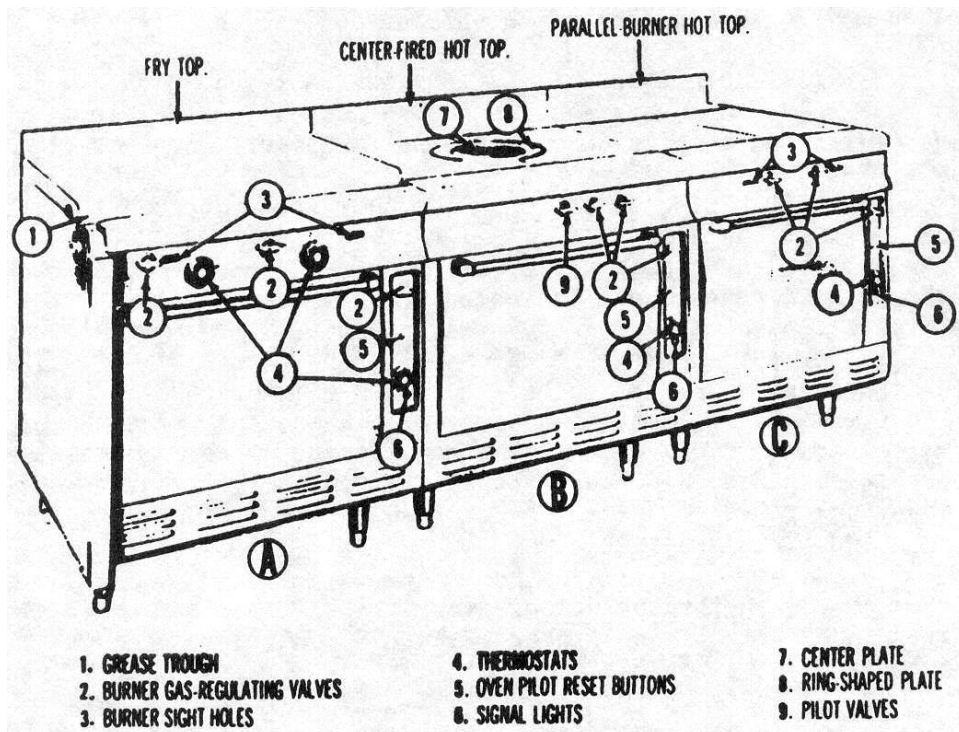

Figure 8. Gas ranges with fry and hot tops.
10. **HEAVY-DUTY GAS RANGE.** This range is a gas-fired unit composed of a top cooking surface and an oven (fig. 8). The range may have four open-top burners, a hot top, or a fry top. The open-top range has four direct-flame burners with cast steel grids that support pots and pans directly over the flames. The hot-top range has several burners covered by a heavy cast steel cooking plate. The burners on the fry-top range are covered by a heavy cast-steel griddle with one or more grease troughs; the griddle surface is shaped so that excess grease will drain toward the trough and then into a removable grease tray. The range oven has a bottom-hinged door and an adjustable, removable shelf. The heat control knobs are located on the front panel of the range. Each top and oven burner has a gas-regulating valve, a gas orifice, and an air shutter. The oven burner is controlled by an adjustable thermostat, and the oven burner pilot has a special safety valve that automatically shuts off the oven gas supply whenever the pilot light is out. The heavy-duty gas range operates on natural, manufactured, or liquefied petroleum (LP) gas.